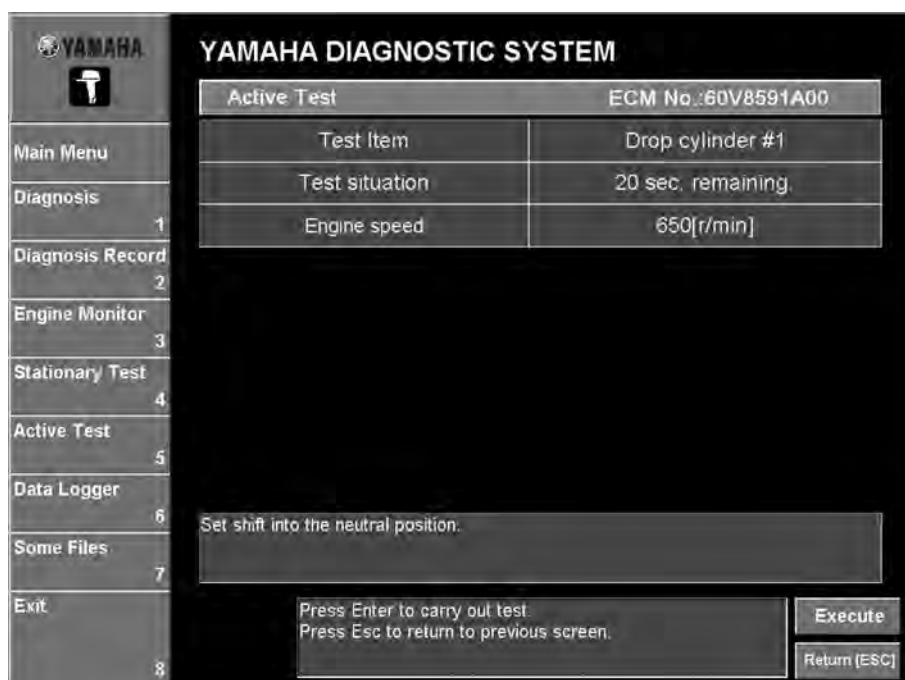

Fig. 97
4. Click the **Execute** button or press the Enter key on your keyboard. (Fig. 97)
5. While checking the information that appears beside **Test situation** and **Engine Speed**, follow the test instructions in the messages that are displayed. (Fig. 97)